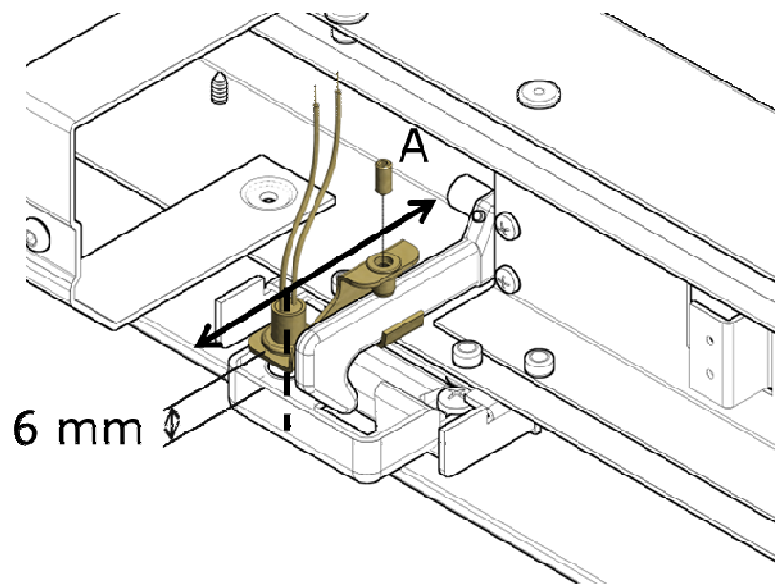

Figure 4-3
3. Release the screw (A) and adjust the position of the closing limit switch magnet along the indicated direction (Figure 4-3) and align magnet along dashed line. Check magnet distance too.